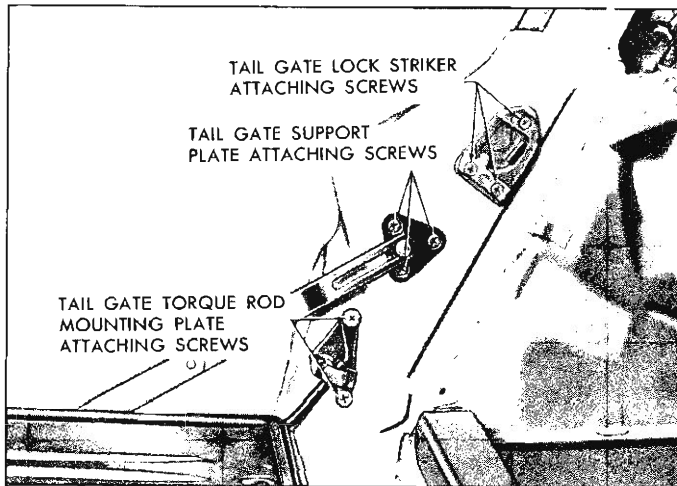

Fig. 37—Tail Gate Support and Torque Rod Attachment
6. Raise tail gate to approximately a vertical position to relieve torque from torque rod. Remove torque rod mounting plate attaching screws (fig. 37) from left body pillar and remove mounting plate.
2. Raise tail gate to almost a vertical position to relieve torque from torque rod. Remove torque rod mounting plate attaching screws from left body pillar and remove mounting plate (fig. 37).